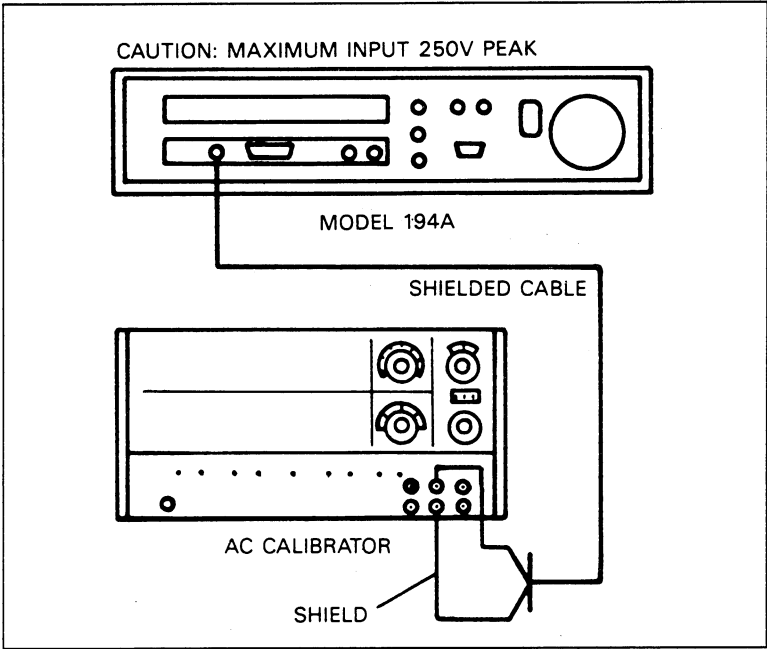

Figure 5-3. AC Verification Connections
- Connect the AC calibrator (Table 5-1) to the VOLTAGE INPUT jack of the channel being tested. Use the basic connecting scheme shown in Figure 5-3.